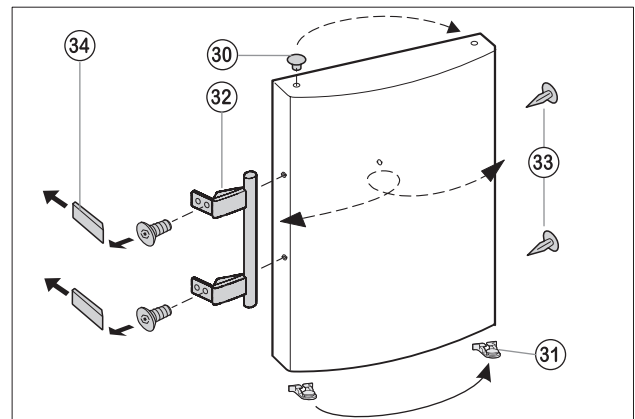

Fig. 4
- Lift the plug Fig. 4 (30) out of the upper door bearing bush and set down.
- Lift the plug Fig. 4 (30) out of the lower door bearing bush and re-locate.
- Disengage the spring clamp Fig. 4 (31) from the fridge section door and re-locate on the new hinge side.
- Dismantle the door handles Fig. 4 (32), plugs Fig. 4 (33) and pressure plates Dismantle Fig. 4 (34) with the door open.